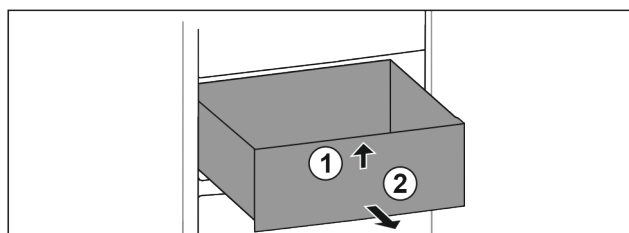

Fig. 15
- Lift up drawer at the front. Fig. 15 (1)
- Remove drawer to the front. Fig. 15 (2)